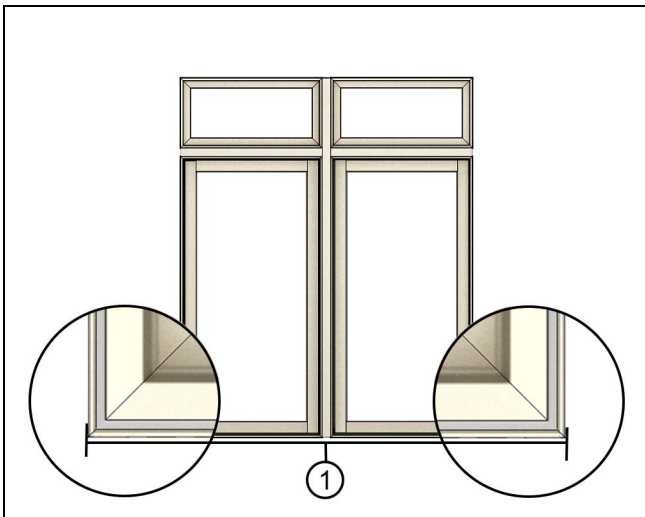

Figure 33
3. If not done already cut two pieces of A148 frame trim. Measure the outside frame measurement and subtract 5/32" (4) for the finished length. Set these aside until sealant application is complete. See Figure 33.